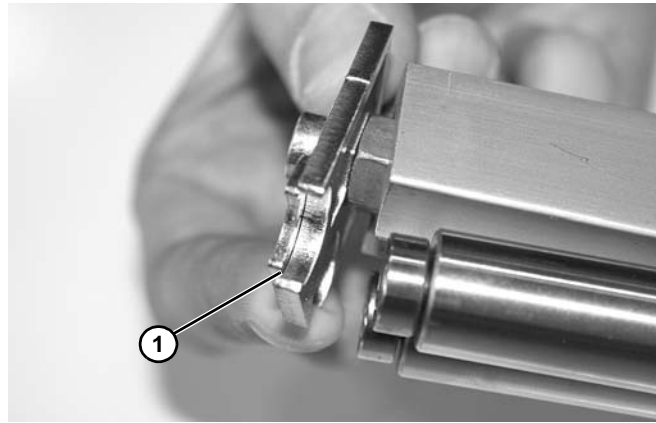

Figure 108
6. Remove outer and inner end plate (Figure 108, item 1).